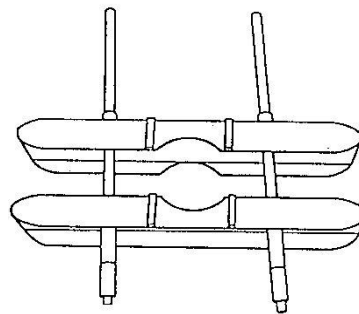

Figure 2: Beam Clamps
- 1) Wooden friction blocks or steel clamps (figure 2).